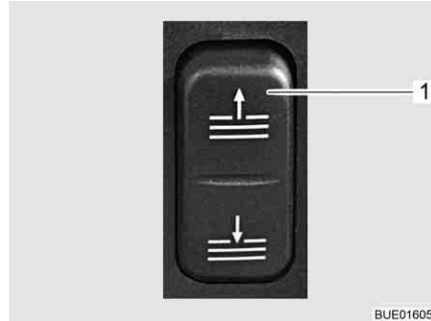

Fig. 37 Sun visor switch
- Press the upper or lower half of the switch (Fig. 37, 1). The sun visor moves upwards or downwards whilst the button is pressed.